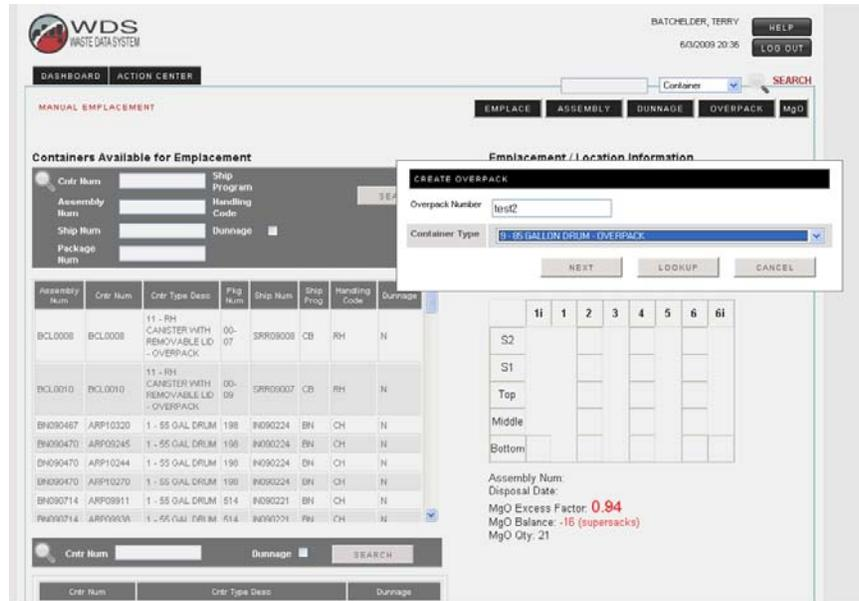

Figure 5-5 - Overpack Screen
- B. Click on **Overpack** button as shown in Figure 5-5.